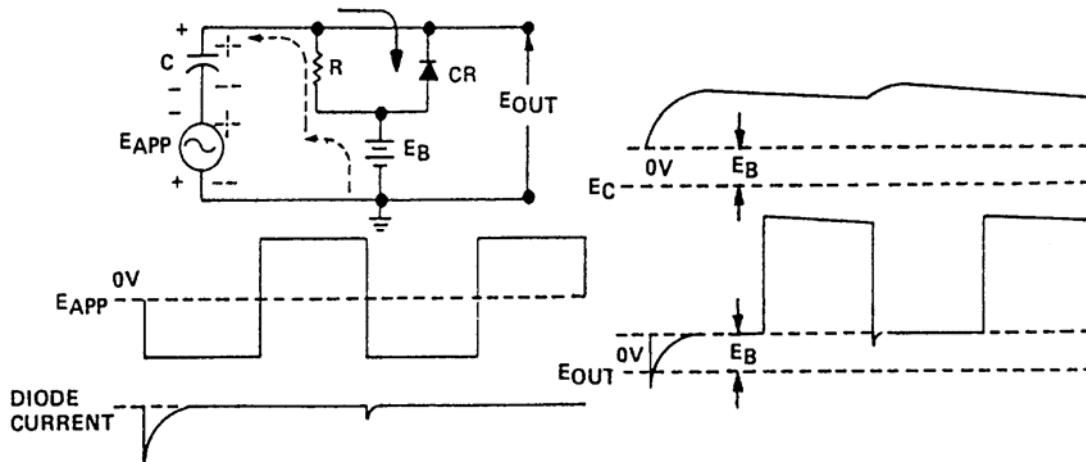

Figure O-2. Positive Diode Clamper with Positive Reference Level
b. Figure O-2 shows the positive diode clamper with a positive bias connected. Note that the diode is forward-biased by the battery. Therefore, without a signal applied, the output terminal is at the battery voltage due to diode conduction.